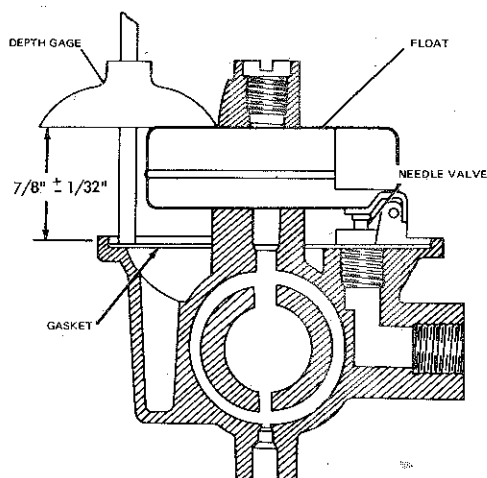

Figure III-11 Float Level Setting
- (1) With fuel bowl removed, set depth gauge to dimension recommended in illustration (figure III-11).
- (2) Hold throttle body assembly in an inverted position and at the same time support float so that the tab of the float lever just contacts the needle valve without any pressure or weight.
- (3) Place depth gauge in position as illustrated.
- (4) If float position is not to the dimension shown by depth gauge, remove float and bend tab that contacts the needle valve (use two long-nose pliers - close to the float body), until correct dimension is obtained. Reassemble float to throttle body and re-check float level position.